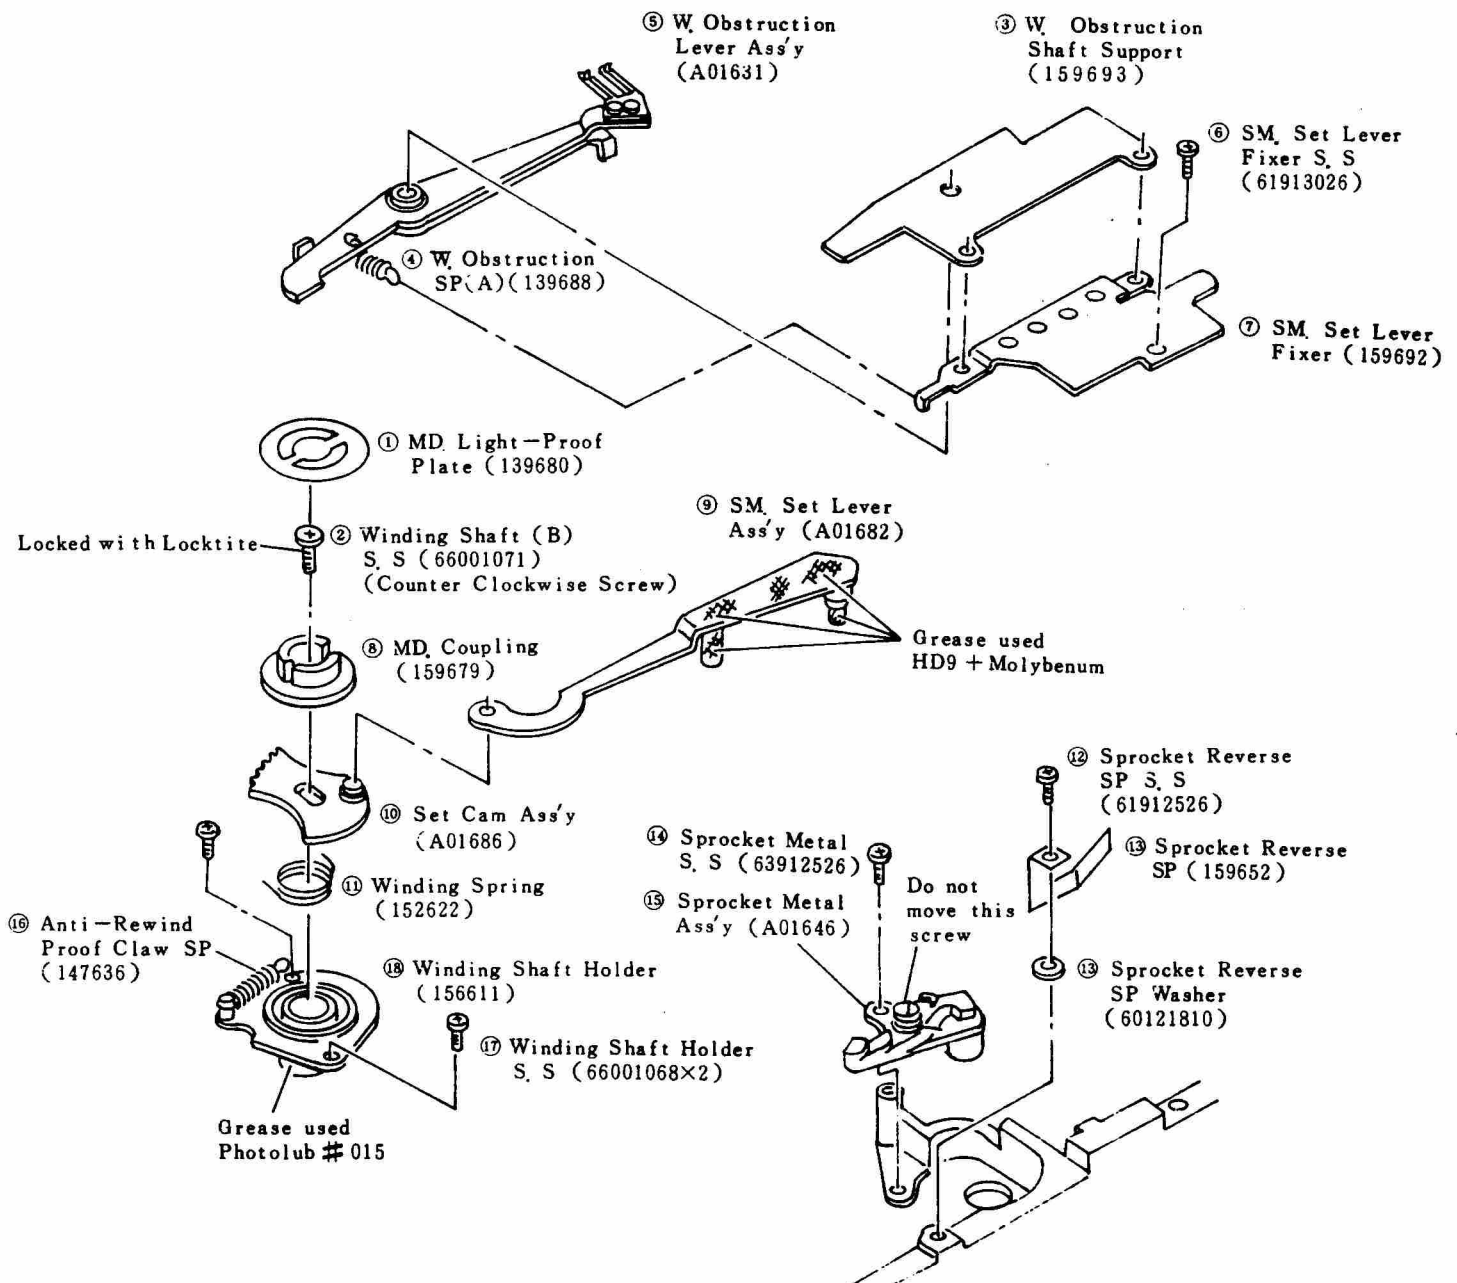

Fig 25
a) Remove the respective parts ① ~ ⑮ shown in (Fig 25) in numerical order.
- m) Set the SM. Set Lever Ass'y (A01682), MD. Coupling (159679) and tighten the Winding Shaft (B) Set Screw (66001071) (counter clockwise screw).
- See (Fig 25).